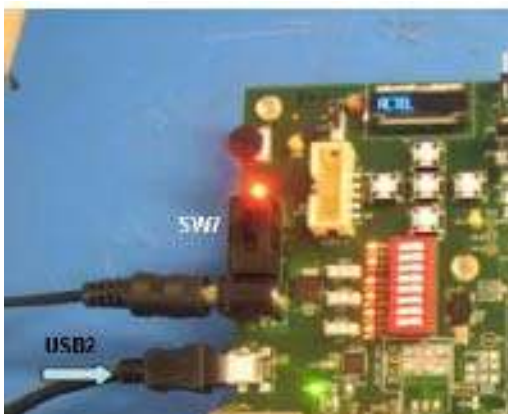

Figure 2-9 • Connecting the USB and 9 V Power Supplies on the M1AFS-ADV-DEV-KIT Board
1. Connect one end of the USB mini cable to USB port J2 on the M1AFS-ADV-DEV-KIT board (labeled USB2 in Figure 2-9) and connect the other end to the USB port on your PC.
- Connect one end of a 9 V power supply to power input J3 on the M1AFS-ADV-DEV-KIT board (Figure 2-9) and plug the supply into an electrical outlet.